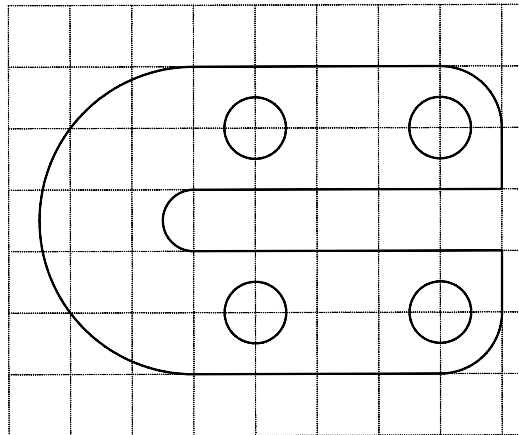

Figure 3-13 Drawing for Exercise 4
- b. Make the drawing shown in Figure 3-13. Create the curves using the **ARC** command. The distance between the dotted lines is 1.0 unit and the diameter of the circles is 1 unit.